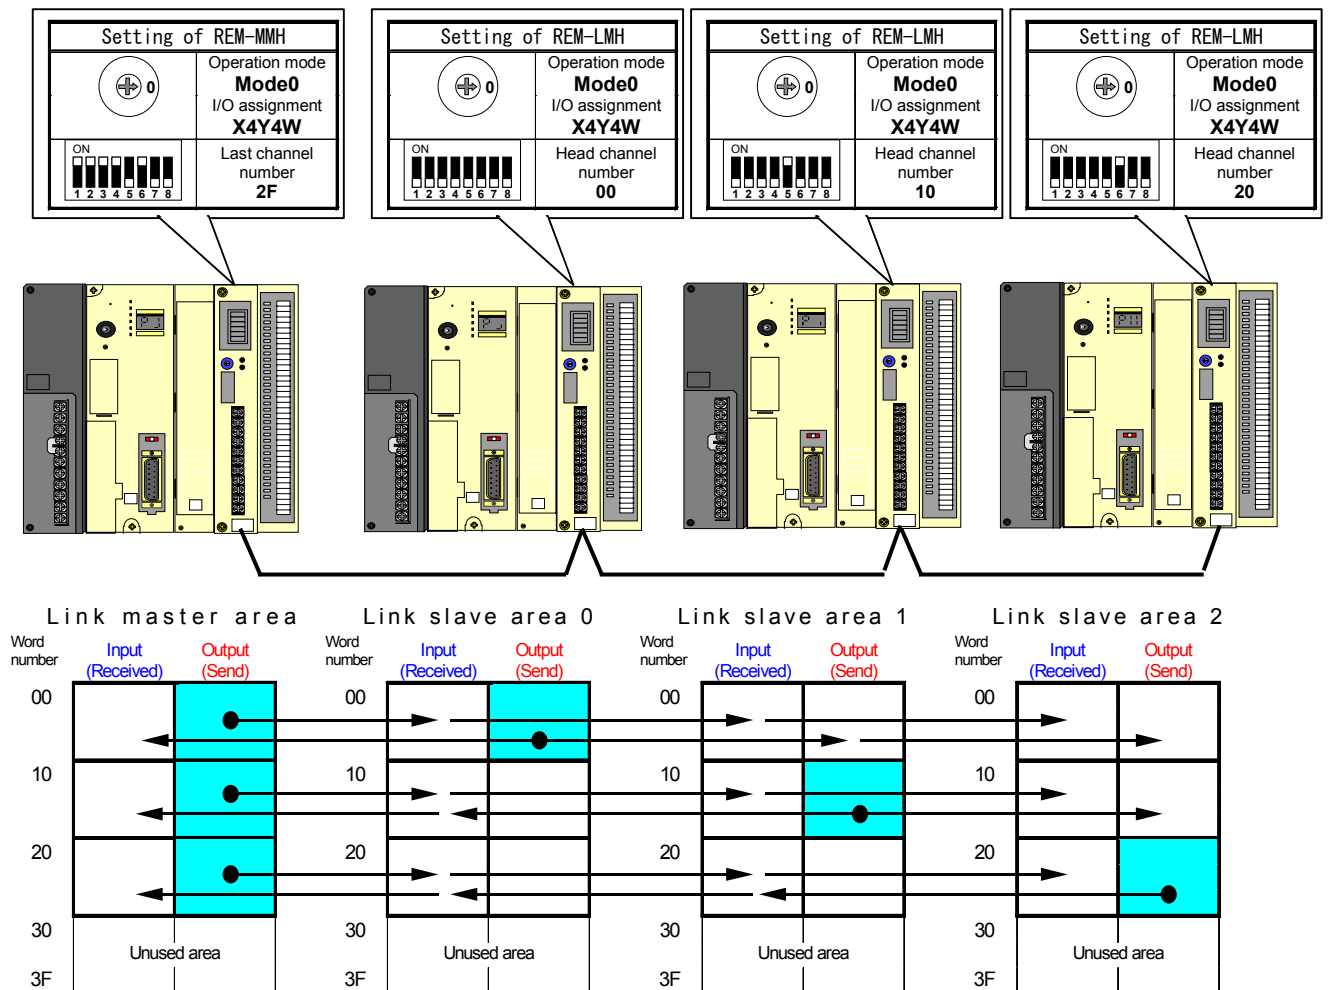
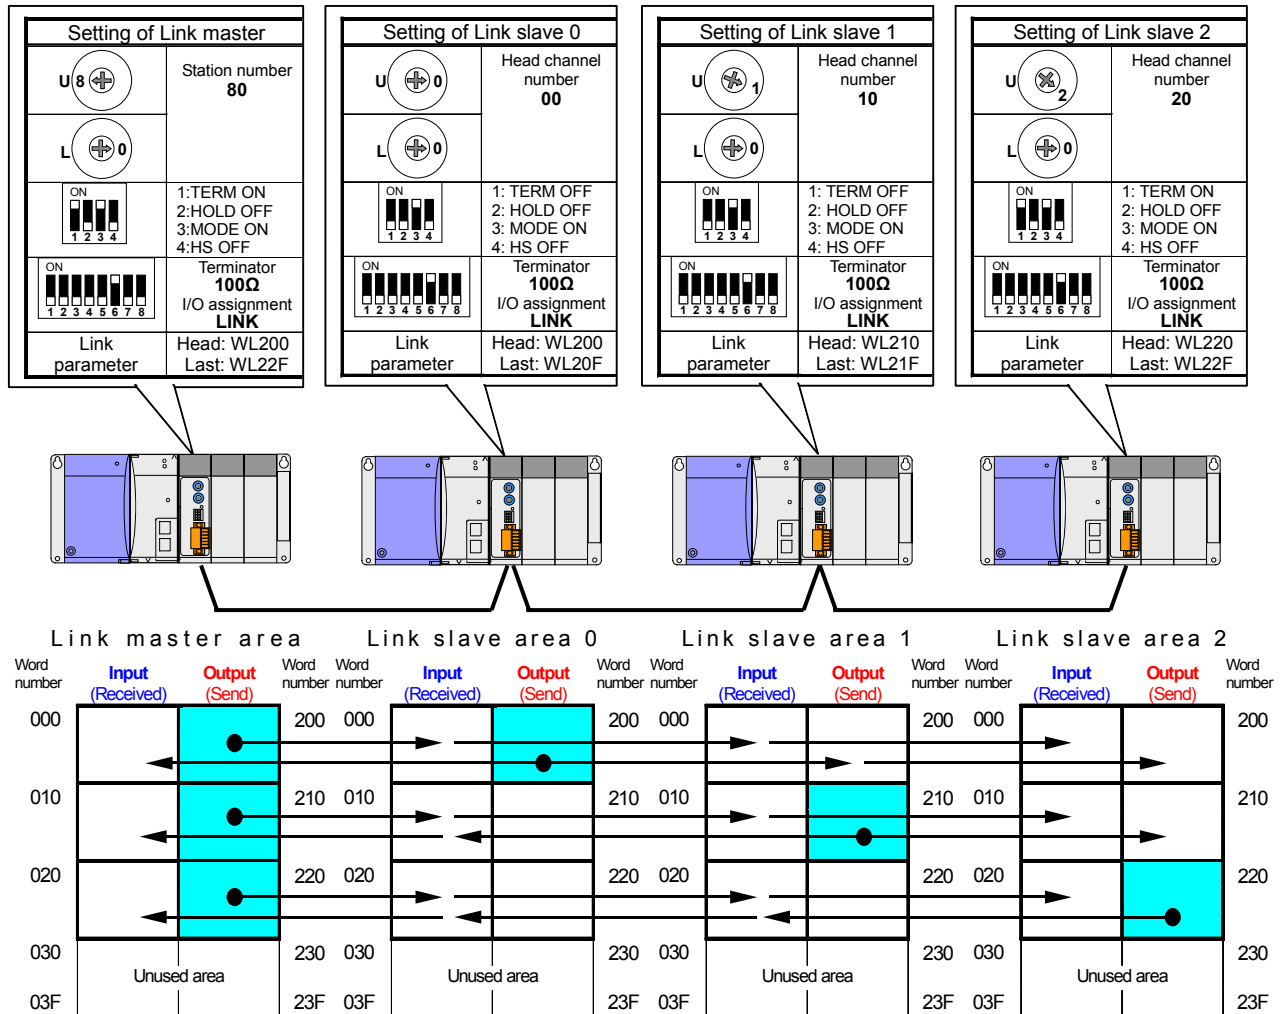

Figure 4.4.1 System configuration example (Master/ Slave: Mode0)
Figure 4.4.2 Replacement system configuration example (Master/ Slave: Mode0)
Figure 4.4.1 shows the system configuration example of the H series. Figure 4.4.2 shows the replaced system configuration example of the EH-150 series.
Figure 4.4.2 is an example of replacing all of link system with the EH-150 series. It is also possible to leave all or partially stations of the H series in order to postpone the wiring work of stations. In this case, please turn off high-speed refresh mode (HS) of the front Dipswitch of the compact link modules.